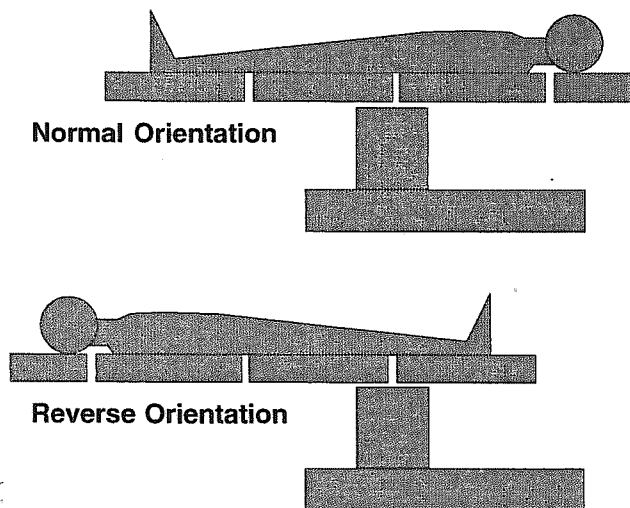

Figure 4-2. Patient Orientation
- Press the ORIENT PATIENT Function button in the center row of buttons on the hand control and **within 5 seconds** (while the LED is still lit), press the appropriate Actuate button (NORMAL or REVERSE) to indicate the orientation of the patient's head on the table (see Figures 4-2 and 4-3).